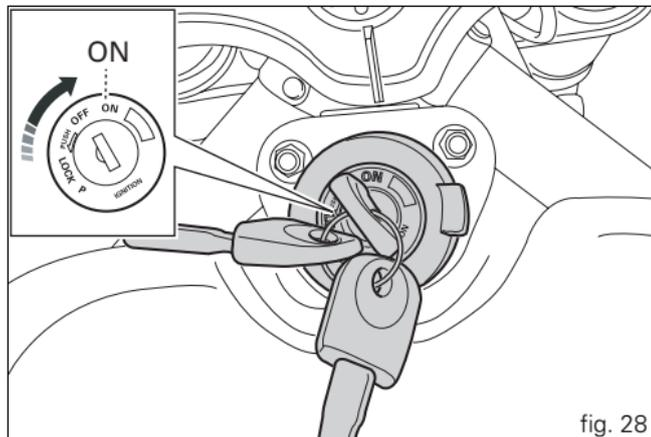

fig. 28
- E** 1) Turn the ignition switch to **ON** (fig. 28). Check that both the green light **N** and the red light  on the instrument panel come on.